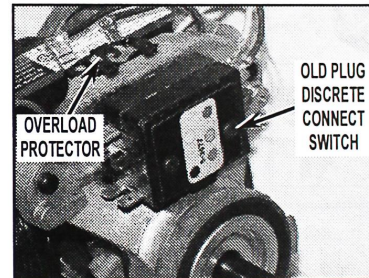

FIGURE 2A (FAILED MOTOR)
4. Compare and note difference between the motor switch of the failed motor and the switch of the new replacement motor. See *Figures 2A, 2B, & 2C*. If the switches are the same, simply install the motor in reverse order of removing the defective motor. If not, proceed to step 5.